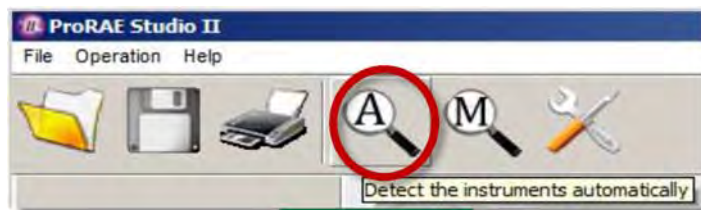
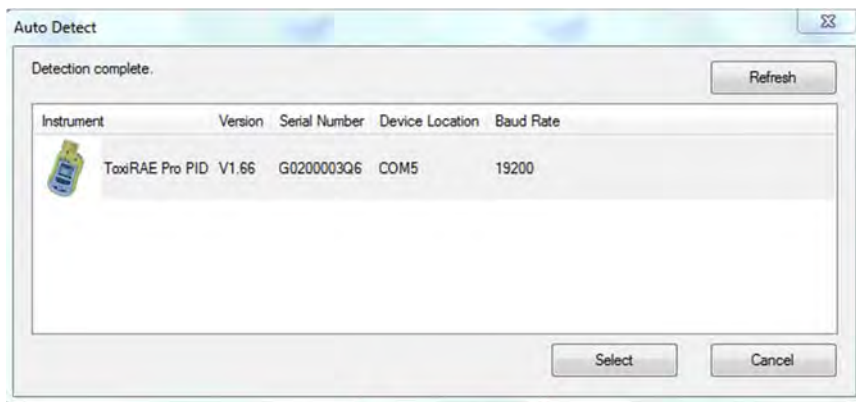

Figure 10
Figure 11
8. Next select the automatic sensor detection tool (Figure 10). It will find and access the ToxiRAE Pro PID (Figure 11).